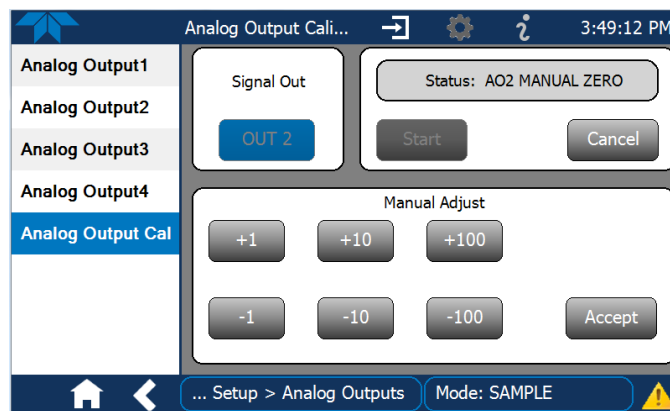
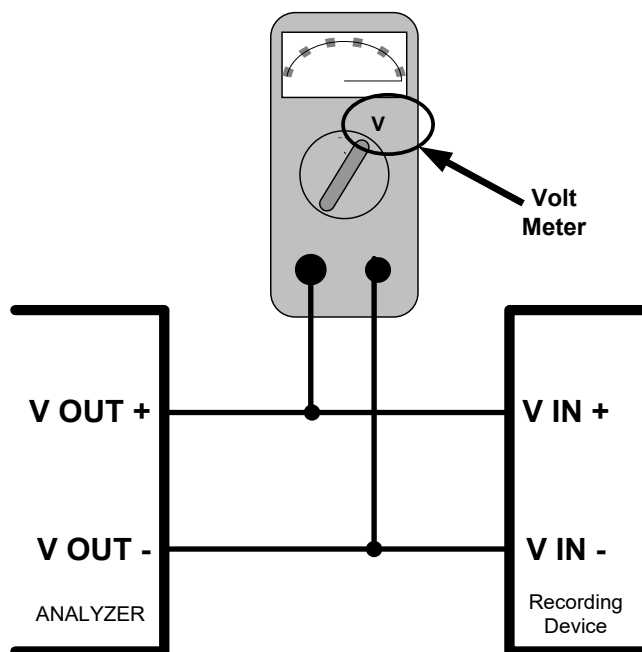

Figure 2-46. Analog Outputs Manual Calibration Screen (AOUT2 Example)
Figure 2-47. Setup for Checking / Calibrating DCV Analog Output Signal Levels
- MANUAL for individual calibration (Figure 2-46) of analog outputs where manual adjustments can be made (the only calibration type allowed when Current is selected for the Range). See Sections 2.5.8.1 and 2.5.8.2 .
It is possible to manually calibrate the voltages by using a voltmeter connected across the output terminals (Figure 2-47) and changing the output signal level in the Manual Adjust field of the Analog Outputs Calibration screen (Figure 2-46). Refer to Table 2-13 for voltage tolerances.